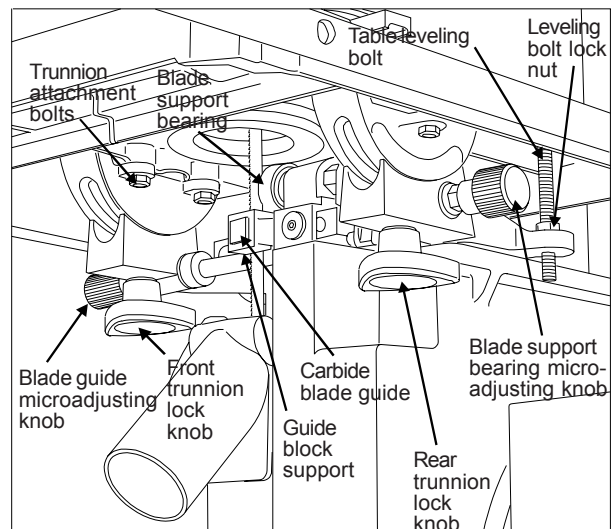

Figure 12. Lower Blade Guide Support Rear View
11. With everything locked down, look at the pointer for the angle gauge. It should be exactly on the zero mark of the gauge (*Figure 12*). If not, loosen the pointer screw, adjust the pointer until it is on zero, then tighten the pointer screw while holding the pointer securely in position on zero.
2. Measure from both ends of the miter slot to the straight edge.3. If the measurements are not equal at both ends of the slot, loosen six bolts securing the table to the table trunnions (see *Figures 12 and 13*.)
17. Using the micro-adjusting knob, move the lower blade support assembly (Refer to Figure 12) forward until the support bearing just contacts the back edge of the saw blade.